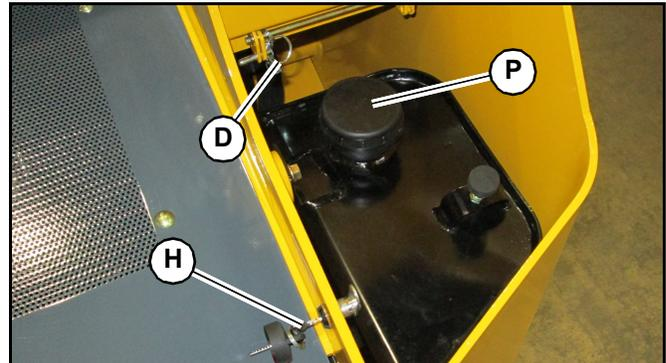

Fig. 144 – Hydraulic Oil Fill
6. If the hydraulic oil level is low, use the ignition key to unlock and open the hydraulic tank cover (H, Fig. 144), located on the top right of the machine next to the top engine cover. Lock tank cover open using pin (D).
9. Using the key, unlock and open the hydraulic tank cover (H, Fig. 144), located on the top right of the machine next to the top engine cover.
10. Remove hydraulic breather/oil fill cap (P, Fig. 144) and add hydraulic oil until the level reaches the middle of the sight glass (A, Fig. 146). Replace and tighten the hydraulic oil fill cap. Close the engine compartment.